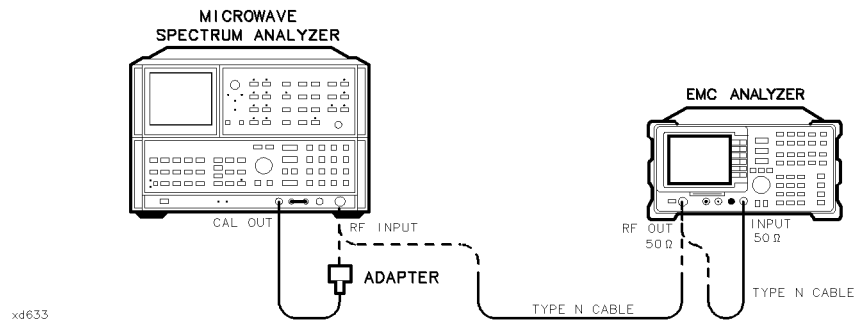

Figure 2-80.
2. Connect the Type N cable between the RF OUT 50 Ω and INPUT 50 Ω connectors on the EMC analyzer. See Figure 2-80.
4. Connect the Type N cable from the tracking generator output to the microwave spectrum analyzer RF INPUT as shown in Figure 2-80.